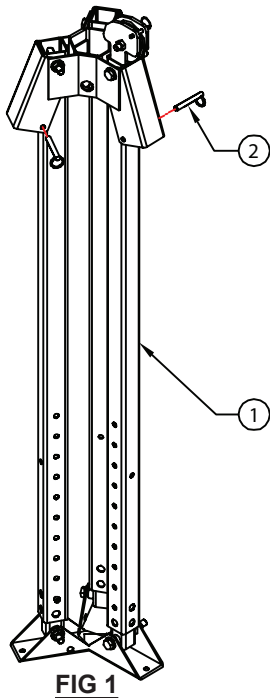

FIG 1
1. Stand collapsed Tripod[1] on floor with feet down (See Fig. 1).
2. Remove leg retainer pins[2] from 3 places in tripod head (See Fig. 1).